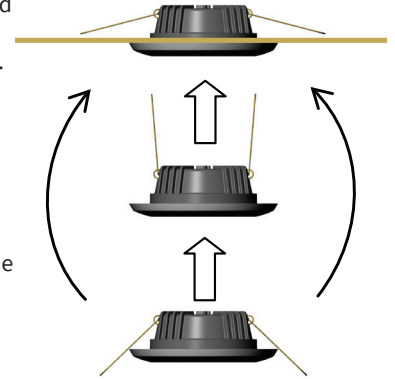

Figure 3
A. Spring-Mount Version (Sigma Small or Sigma Large): With trim ring attached, gently bend back the mounting springs and insert the spring tips into the cutout hole in the mounting surface. (See Figure 3)